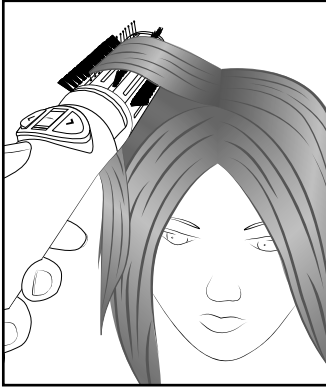

Fig. 2
- ▶ You can also achieve more fullness at the hairline by simply holding the round brush **8/9** for a few seconds just below the strand at the hairline (see Fig. 2). Do this without the rotation function, otherwise the hair will get caught in the bristles!